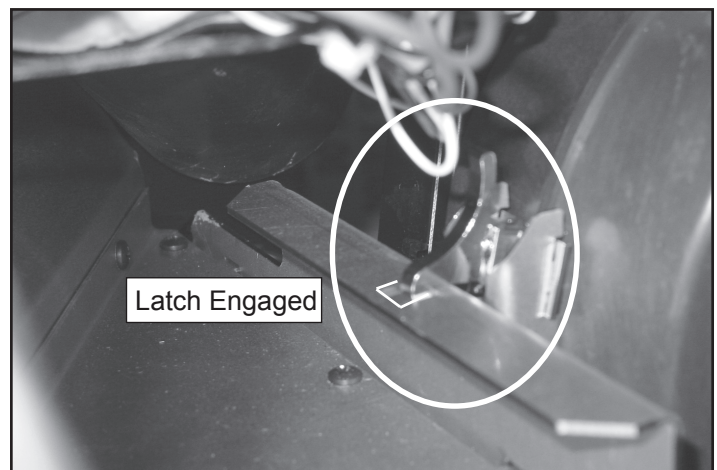

Figure 33.4
5. When the blower is properly positioned the latch will engage the notch to hold the blower in place (**Figure 33.4**).